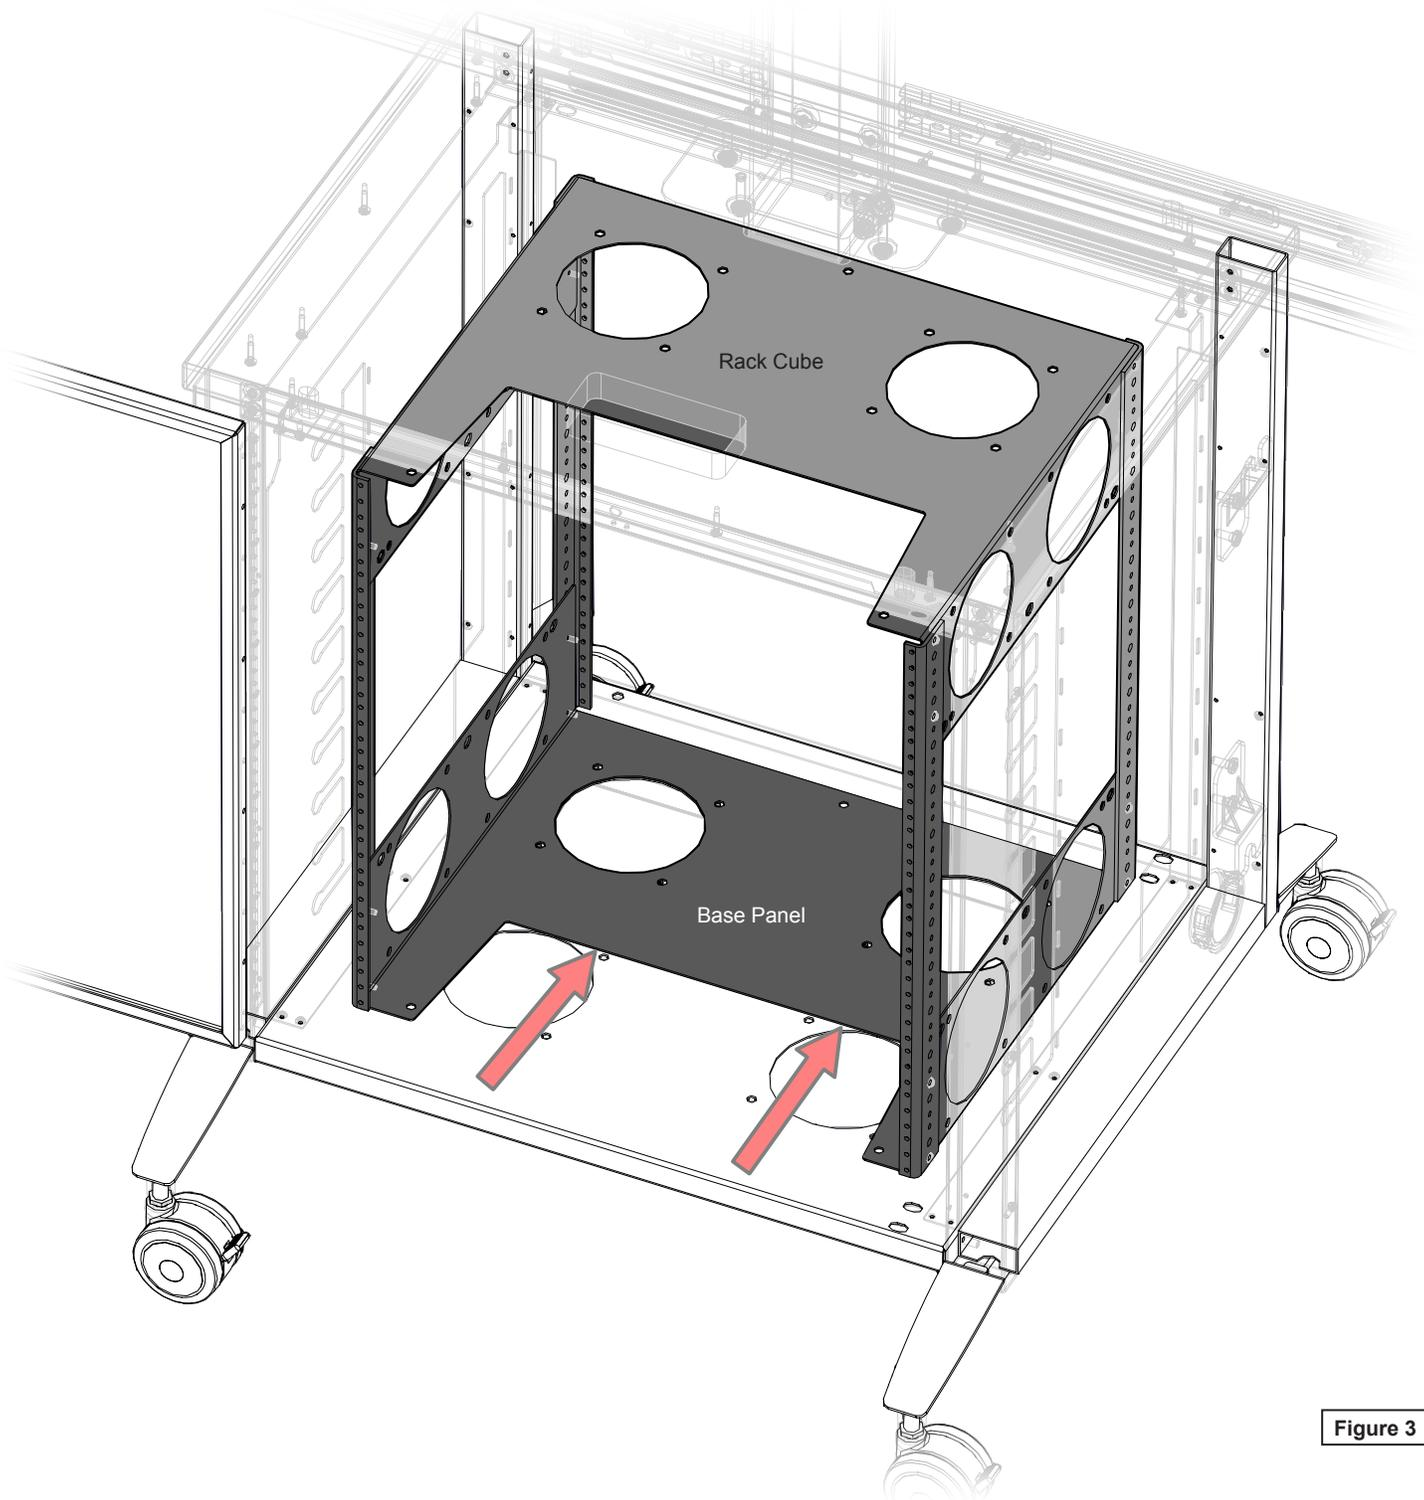

Figure 3
1. Open door to provide better access. **Figure 3.**